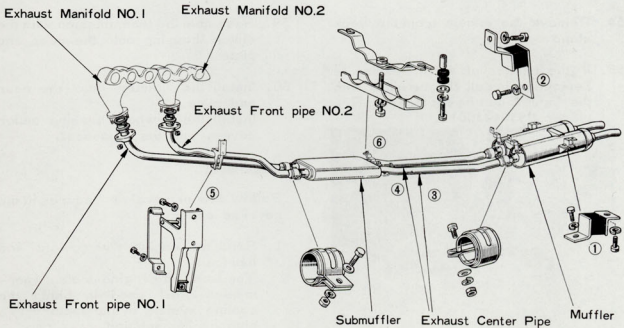

Fig.3-66 Exhaust System
5. Loosen the clamps at the front end of the muffler. Remove the muffler supports No.1 (1) and No.2 (2), and then remove the muffler assembly from the exhaust center pipes No.1 (3) and No.2 (4) as shown in figure 3-66.
6. Remove the clamps for exhaust pipe support bracket No.1 (5) and bracket (6), and then remove the exhaust center pipe sub-assembly with exhaust front pipe.